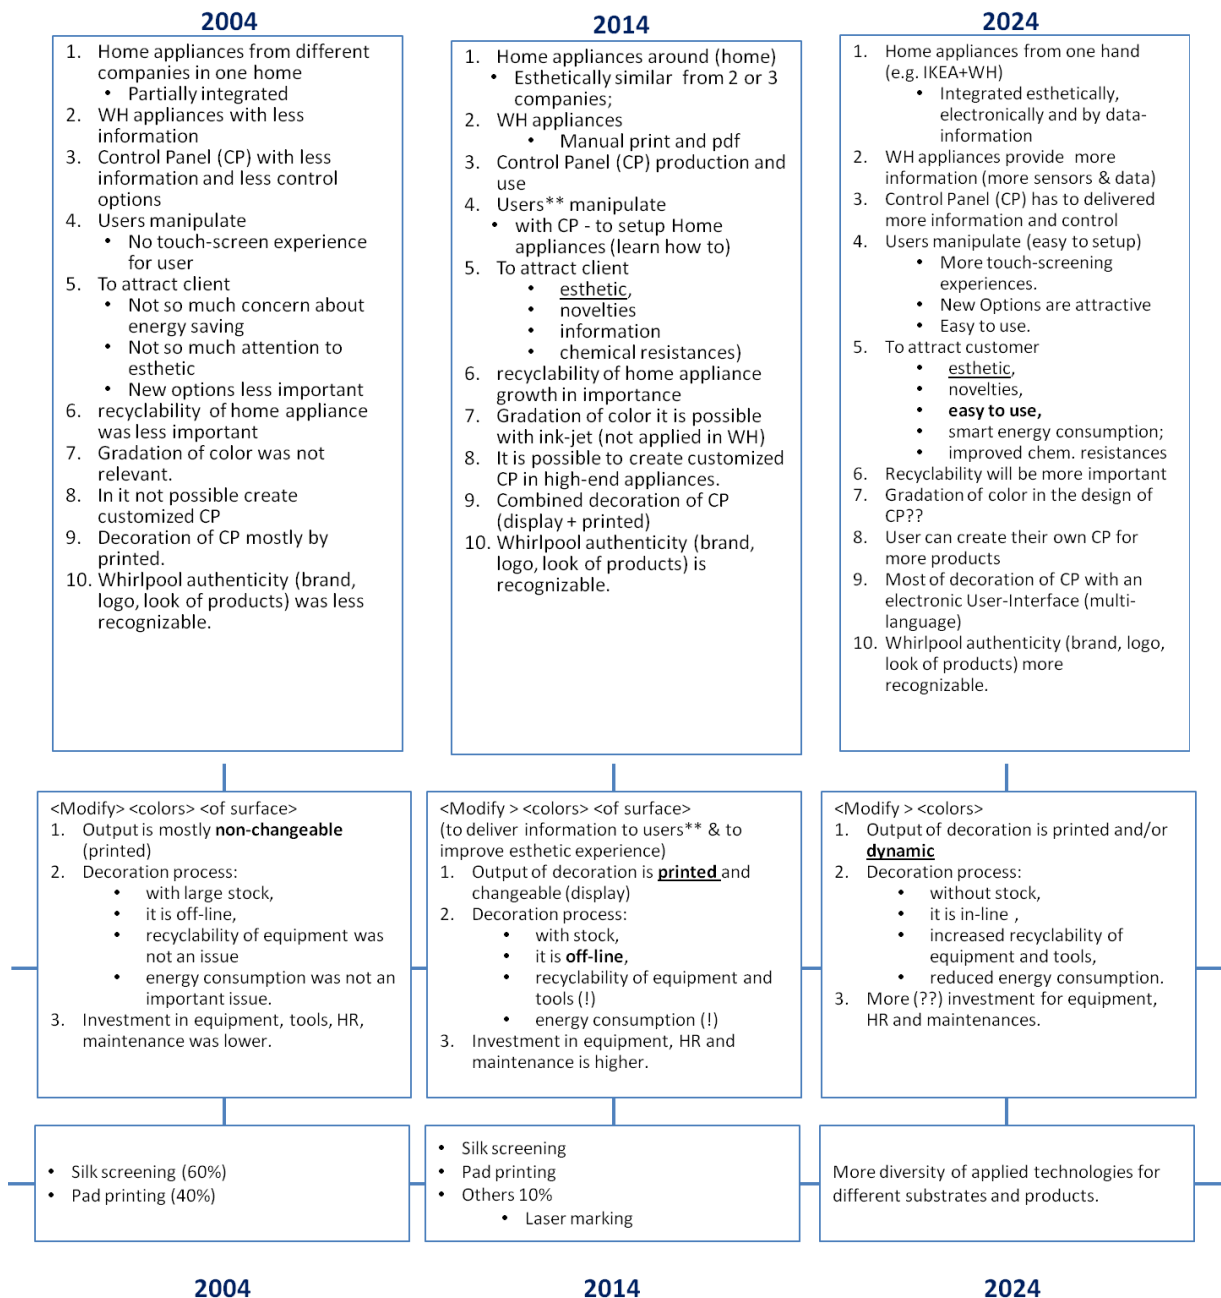

Figure 7. System Operator (SO) according to main function process.
With the information about the current state of technologies applied by FORMAT partner, a further analysis is needed in order understand how have been changed the requirements and contexts for the main process function (<modify> <colors> <of surface>). With this perspective, SO analysis seems a suitable TRIZ tool to understand and combine all the information collected in the previous sections. Moreover, it allows at understanding and comparing historical changes. SO analysis started defining at system-level the main function process, requirements and characteristics Figure 7. At sub-system level were defined the technologies currently applied by FORMAT partner and their estimated application in terms of percentages. With this information, super-system description is accomplished taking into consideration four contexts: technological, environmental, economic and social. Additionally, in order to obtain a feasible envision of the future, it is suggested to develop a sort of horizontal comparison from the present to the past, this comparison allows analyst at understanding how has been changed the requirement and/or context. As results of this activity, several remarks emerged from the analysis which helps to the teamwork driving a more precise envision of the future. These remarks are presented in details in Figure 8 for decoration case study. Finally, the SO future screens are accomplished with the knowledge learned from the past.
Four aspects of viewing the system have been determined: Technological, Economic, Environmental and Social. From the one hand, these aspects sufficiently give the possibility to cover the most significant connections and problems of the system. With this classification, a table has been made for the decoration technologies existing in Whirlpool based on its functional model. (Table 12) As results, 21 constraints have been formulated. In turn, the classification of constraints needs to be iteratively modified to obtain understandable results for all the team work and beneficiaries. As results of the agreement activity, the final classification is provided: 7 – with the Technological aspect, 7 – with the Economic, 2 – with the Environmental and 5 – with the Social. (Table 12) From the other hand, the classification has to be in accordance with System Operator (SO) (Figure 7) analysis; the analyst has to understand in which level of SO the constraints emerge and how these can influence the company state. In the Table 12, next to each problem, references to the corresponding screen of the SO have been given. (Figure 7)
Table 12. TEES constraints to STF (sub-system, system, super-system are references to System Operator on Figure 7)